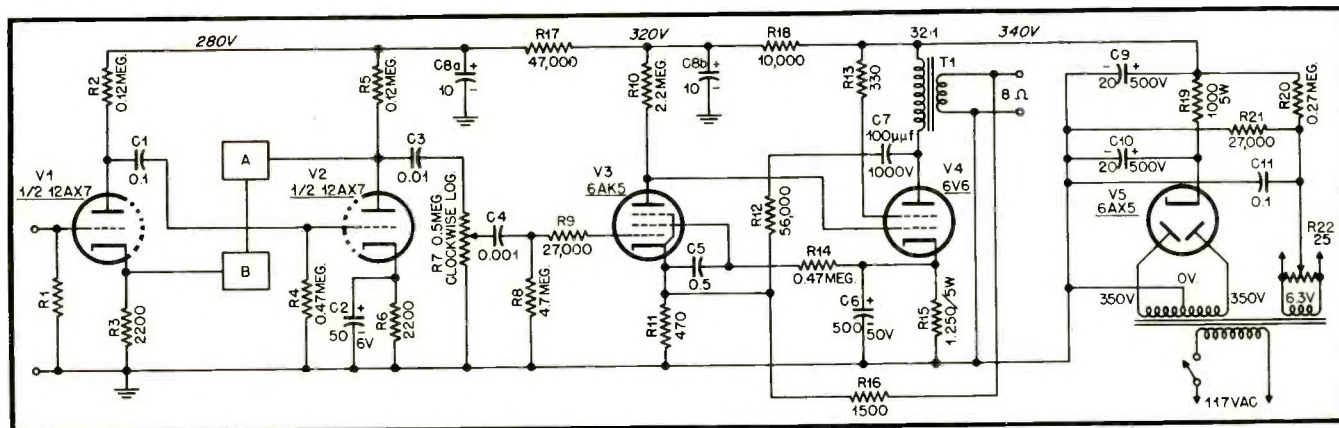

Fig. 2. The complete schematic of the amplifier.
*Figure 2* shows the complete circuit in detail. The grid resistor  $R_1$  is chosen to be a suitable load for the pickup. The first two triode sections form a straight cascaded amplifier with a gain of 1400 times, which is reduced to an over-all gain of 100 times by the negative feedback from the plate of  $V_2$  to the cathode of  $V_1$ . This link contains the tone control circuits. Various tone control arrangements are possible, and can be chosen to suit the individual; however, two networks which have been found adequate are described here.